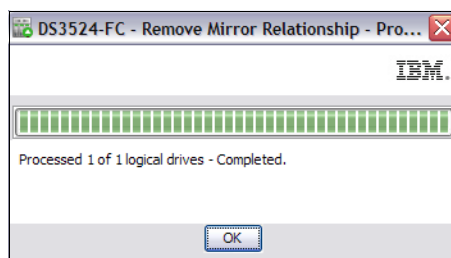

Figure 5-54 Mirror relationship removal progress
3. Click **Yes**. The Remove Mirror Relationship - Progress window opens (Figure 5-54). Click **OK**. All data on the logical drives remains intact and available. Logical drives that were the secondary logical drive in the mirrored pair are now accessible (read/write) by hosts that are mapped to them.